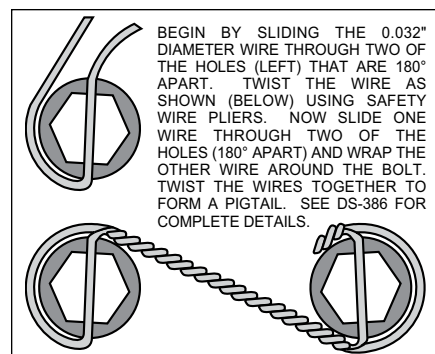

Figure 3. Safety Wire Diagram
- Apply red *Loctite*® 271 to the stock caliper mounting bracket bolt threads before installation of the caliper mounting bracket (1). Install the stock bolts from the near side (opposite from the way they were removed) and place a washer (2) between the spindle assembly and the caliper mounting bracket (1). Torque stock bolts to 65 ft-lb.
- With the larger I.D. side of the rotor (3) facing away from the hat (4), bolt rotor (3) to hat (4) through the backside of the rotor using washers (5) and bolts (6). Apply red *Loctite*® 271 to the bolt threads and torque to **85 in-lb** using a criss-cross pattern. Safety wire bolts (6) using standard 0.032 inch diameter stainless steel safety wire as shown in Figure 3. Please refer to Wilwood's data sheet DS-386 (available at www.wilwood.com/Pdf/DataSheets/ds386.pdf) for complete safety wire installation instructions. Slide the rotor/hat assembly onto the spindle. Install a couple of lug nuts (hand tighten) to keep the rotor/hat assembly in place while continuing with the installation.
- NOTE:** Please reference the caution statement at the beginning of the assembly instructions. With the bleed screws pointing up, mount the caliper (7) onto the caliper bracket (1) with the self locking hex nut (8), flat washer (9), through the top of the caliper and mounting stud (10) with flat washer (11) positioned between caliper (7) and caliper mounting bracket (1). Finger tighten. View the rotor (3) through the top opening of the caliper (7). The rotor (3) should be aligned in the center of the caliper (7). If not, adjust the caliper (7) by using 0.035 inch thick shims (2) placed between the spindle assembly and the caliper mounting bracket (1). Finger tighten and recheck alignment. Reinstall the caliper and torque the caliper nuts (8) to 30-35 ft-lbs.
- Remove the bridge bolt from the caliper (7) and install the disc brake pads (12). Reinstall the caliper bridge bolt.